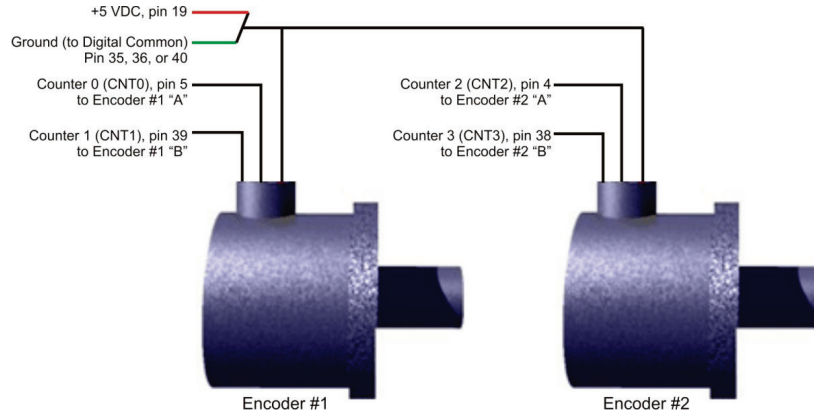

Figure 16. Two encoders connected to pins on the SCSI connector\*
**Wiring for two encoders:** Figure 16 shows the single-ended connections for two encoders. Differential connections do not apply.